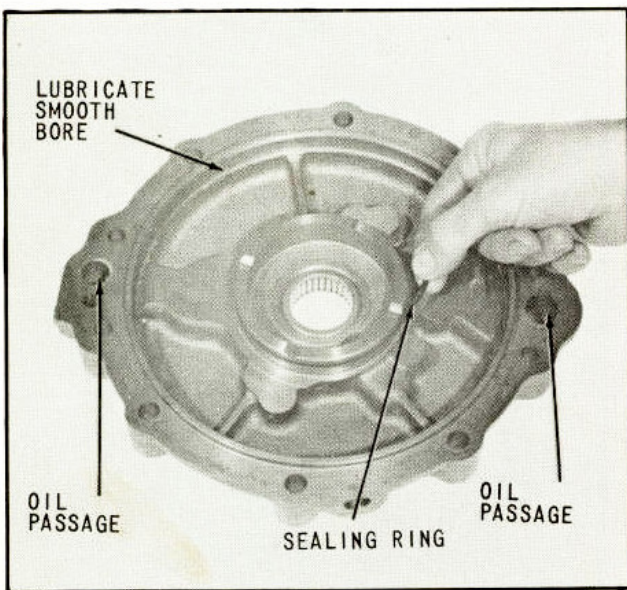

Fig. 54 Assembling Sealing Ring
53. After checking adapter for the following, place it on clean surface in position, shown in (Fig. 54).
Coat sealing ring with petroleum jelly and install in groove of adapter hub, as shown in (Fig. 54).